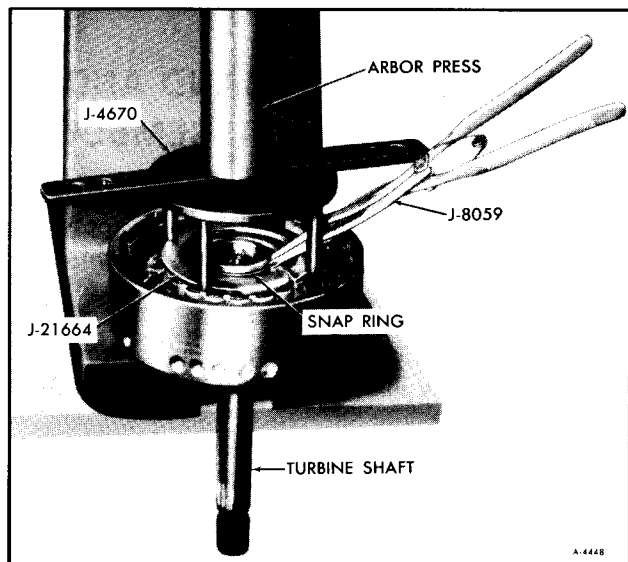

Figure 85—Removing Forward Clutch Snap Ring
5. Using Clutch Spring Compressor, J-4670, and Adapter, J-21664, compress spring retainer with arbor press and remove snap ring using Snap Ring Pliers, J-8059 or J-5586, Figure 85.
Ring Pliers, J-8059 or J-5586. See Figure 85. Remove tools.